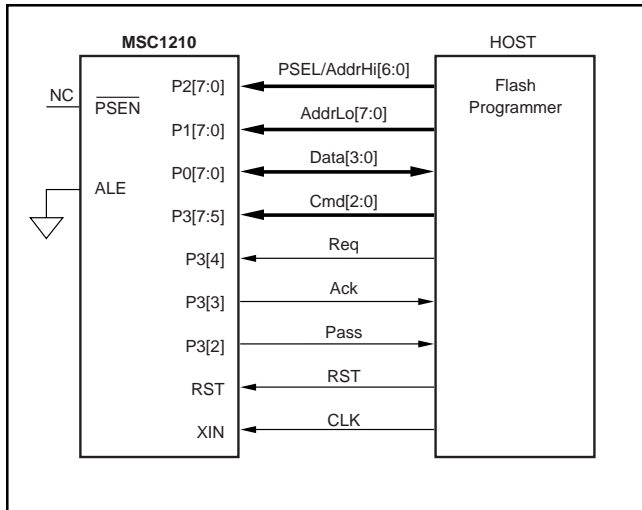

FIGURE 4. Parallel Programming Configuration.
When the MSC1210 is configured to parallel programming mode by pulling $\overline{\text{PSEN}}$ HIGH (or NC) and pulling ALE LOW while RST is asserted, the device ports will be configured for parallel interface with the Host Flash Programming, as shown in Figure 4. Table III shows the port definitions. The host will provide Addr/Cmd/Req/RST/CLK signals, and the MSC1210 will respond with Ack/Pass/Data. The command address Addr[14:0] is divided into two parts, AddrHi[6:0] and AddrLo[7:0], i.e. Addr[14:0] = (AddrHi[6:0], AddrLo[7:0]). P3[1:0] are reserved, and must not be connected (NC).